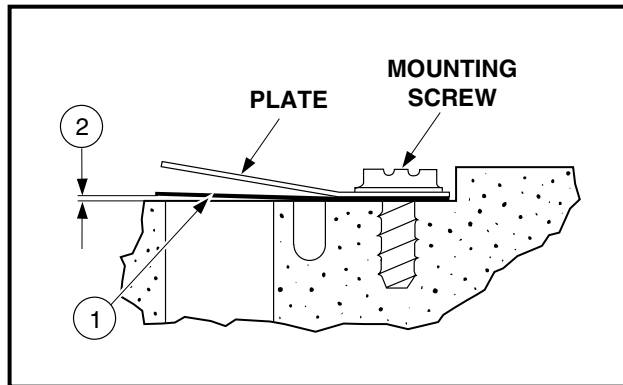

Figure 13-38 Reed Valve
1. Inspect the reed valve (1) for sticking or binding. Replace if necessary (**Figure 13-38, Page 13-21**).
3. Inspect the reed valve (1) seating surface. It must not have any nicks or burrs.
**NOTE:** Place the reed valve on the seat so there is a slight gap (2) 0.008 inch maximum (0.203 mm) between the valve and the seat (**Figure 13-38, Page 13-21**).